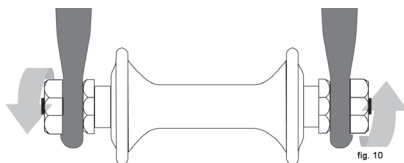

fig. 10
- Hex nuts or hex key bolts which are threaded on to or into the hub axle (bolt-on wheel, fig. 10)